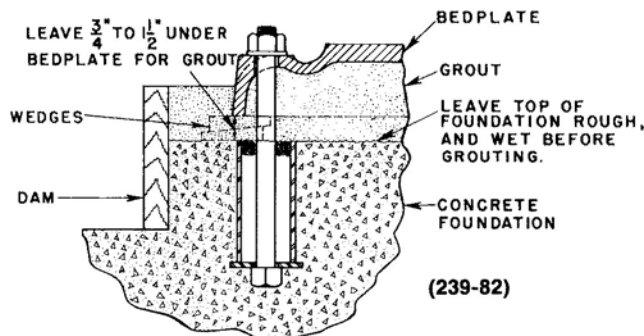

Figure 2: Foundation
- b) Each bolt should be installed with a pipe sleeve around it - to allow for adjustment. The inside sleeve diameter should be $2\frac{1}{2}$ to 3 times the diameter of the bolt. Place a washer between bolt head and sleeve to hold bolt in position. Stuff waste around foundation bolts to prevent concrete from entering between the bolt and pipe sleeve. See Figure 2: Foundation on page 10.
- c) The foundation bolts should be of sufficient length so that they project through the nut approximately $\frac{1}{4}$ " after allowance has been made for grouting ($\frac{3}{4}$ " to $1\frac{1}{2}$ "), the thickness of the bedplate, and the thickness of the foundation bolt nut. See Figure 2: Foundation on page 10.
- a) Put the pumping unit in place on the wedges. The wedges should be placed at four points, two below the approximate center of the pump and two below the approximate center of the driver (See Figure 2). Some installations may require additional wedges near the middle of the bedplate.
- a) Build wood dam around foundation as shown in Figure 2: Foundation on page 10. Wet top surface of concrete foundation thoroughly.